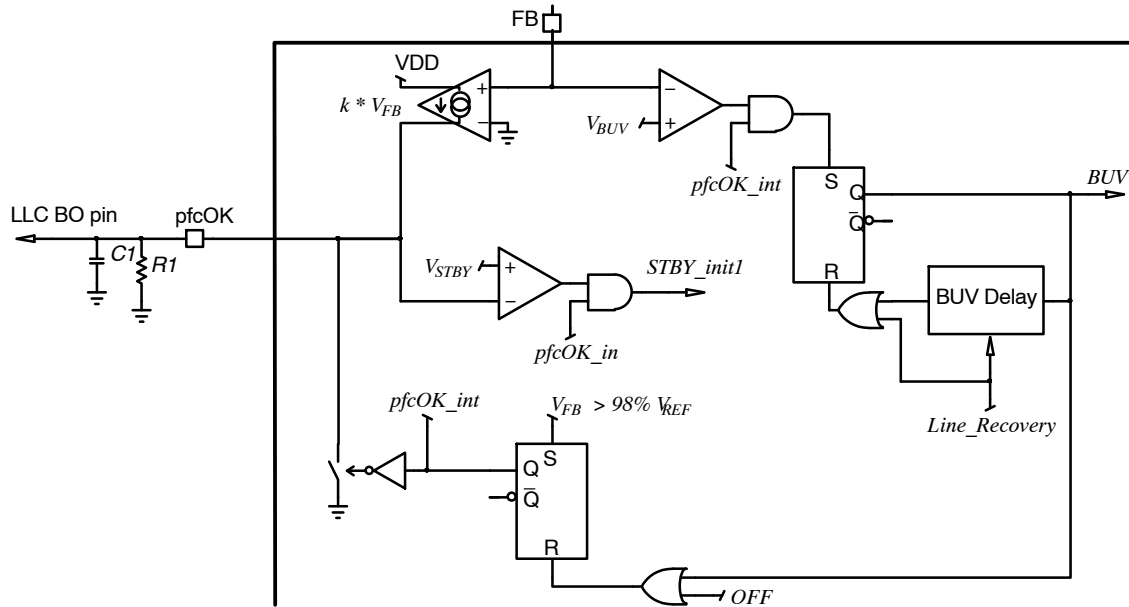

Figure 17. *pfcOK* Block
Practically, the *pfcOK* pin is grounded when the PFC stage enters operation and remains in low state until the output voltage has nearly reached its nominal level (practically when V_{FB} reaches 98% V_{REF}). At that moment, the *pfcOK* pin sources a current proportional to the feedback voltage ($k \cdot V_{FB}$). See Figure 17. Placing an external resistor between the *pfcOK* and GND pins, we obtain a voltage V_{pfcOK} which is proportional to the bulk voltage and can serve as a feedforward signal for the downstream converter. k typical value is 10 $\mu\text{A/V}$ so that the *pfcOK* pin typically sources 25 μA when the FB voltage is 2.5 V (regulation level).
The high voltage (HV) pin is a multi-functional pin, which in addition to the startup current source, provides access to the brownout, line sag, line range detectors and X2 capacitor discharge. The brownout / line-sag detector detects too low line levels and the line range detector determines the presence of either 110 V or 220 V ac mains. Depending on the detected input voltage range, the NCP1618 internally adjusts device parameters to optimize the system performance. Line and neutral are diode “ORed” before connecting to the HV pin as shown in Figure 17. The diodes prevent the pin voltage from going below ground.
- Resets the BUV timer. It is because a long line-sag event is likely to cause a BUV detection. When a BUV fault is detected, no restart is possible until the BUV timer has elapsed. If a BUV fault is detected during a line-sag sequence, we want operation to be resumed as soon as the line recovers (see Figure 17).